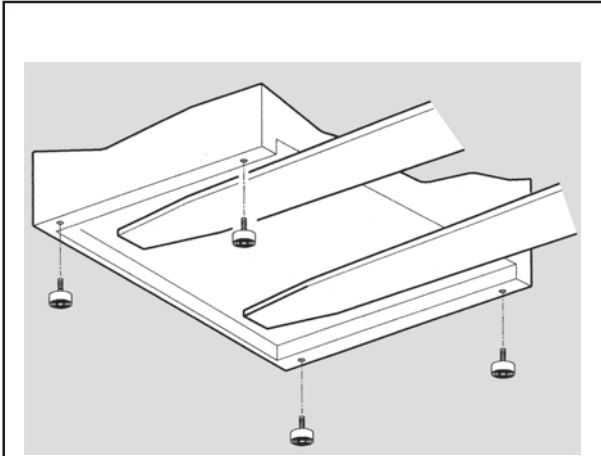
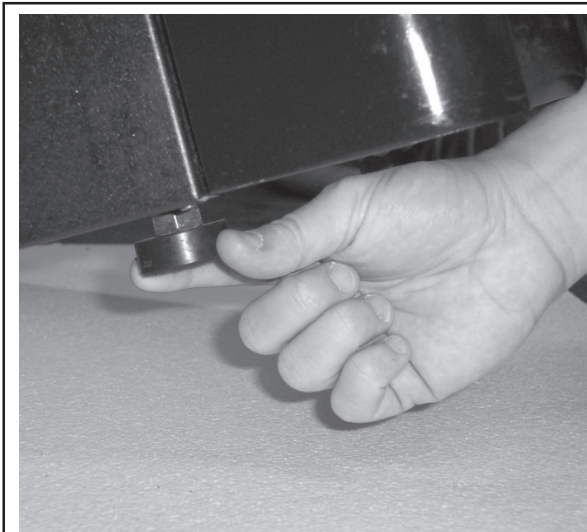

fig.8
fig. 9
- When positioning the vending machine, check its levelling by means of the adjustable feet already fitted under the vending housing (fig. 8) or under the cabinet (fig. 9) Make sure that the vending machine does not have an inclination exceeding 2 degrees.